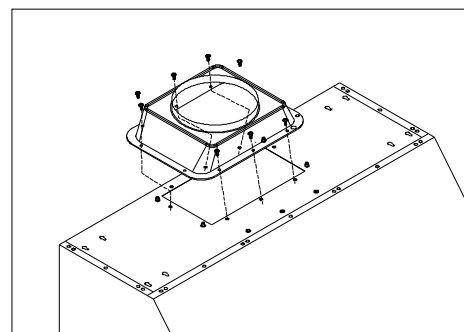

Figure 4
2. Attach ducting transition to hood exhaust with ten (3/16" x 3/8") screws (included). Shown in Figure 4.